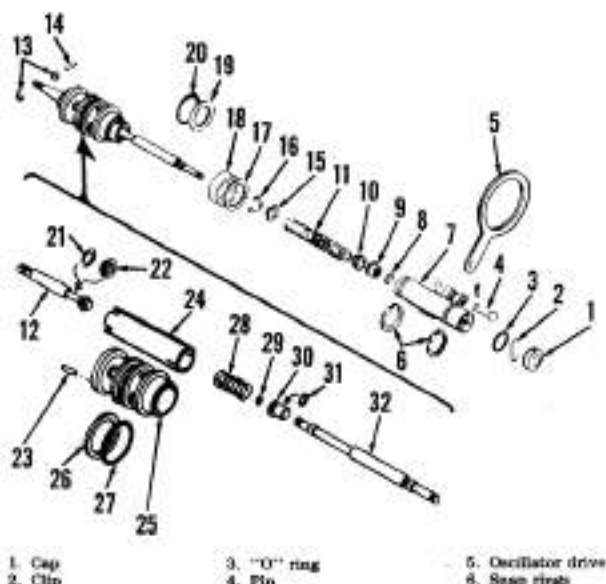

Fig. 239—Exploded view of hydraulic pump control valve and camshaft driven oscillator assembly.
**228. CONTROL VALVE.** The control valve is serviced as a matched assembly which consists of rod (12—Fig. 239) and all parts (21 through 32).